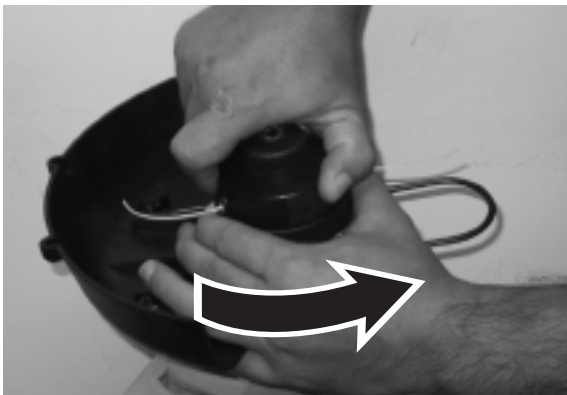
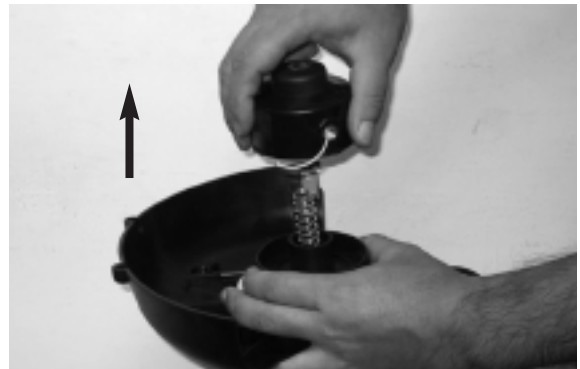

Fig. 17
Fig. 18
2. Remove the spool assembly from the trimmer. To do so, hold the outer ribbed part of the assembly with one hand, while pushing down and turning the spool head with the other to unlock it. (Fig. 17 & Fig. 18) The spool carrier and spool will now disassemble easily.